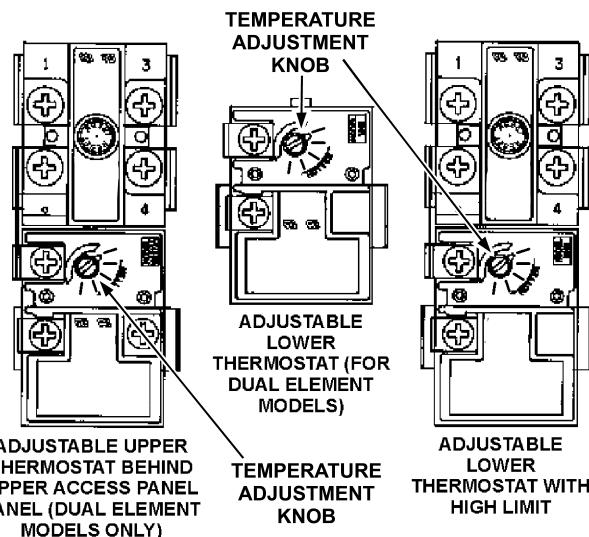

FIGURE 4
3. Depress the red manual reset button on each Thermostat/ECO combination control. (See Figure 4)
It is recommended that lower water temperatures be used to avoid the risk of scalding. It is further recommended, in all cases, that the water temperature thermostats (See Figure 4) be set for the lowest temperature which satisfies your hot water needs. This will also provide the most energy efficient operation of the water heater.